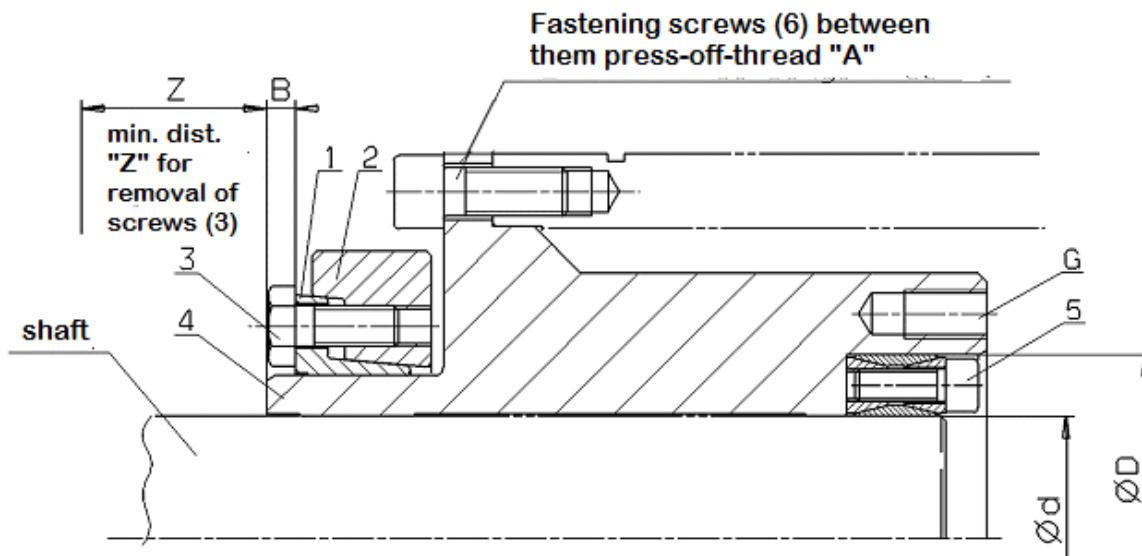

Fig. 2.1
- Loosen the fastening screws (6).
- Pull the electric motor off of the RTM 608 Clamping System. Use press-off threading "A" (see Fig. 2.1 and Table 2.1) to facilitate the procedure if necessary.
- Pull the centring bushing (4) off of the shaft. Use press-off threading "G" (see Fig. 2.1 and Table 2.1) to facilitate the procedure if necessary.